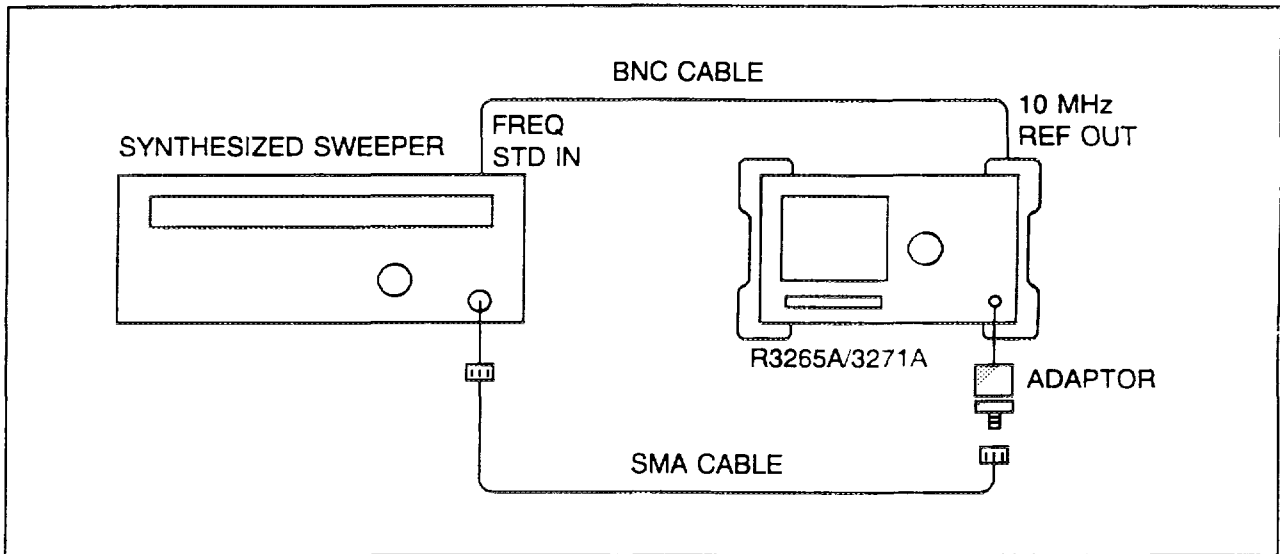

Figure 5-16 SPAN Adjustment Setup
(1) Connect the equipment as shown in Figure 5-16.
(2) Set the TR4515 controls as follows: